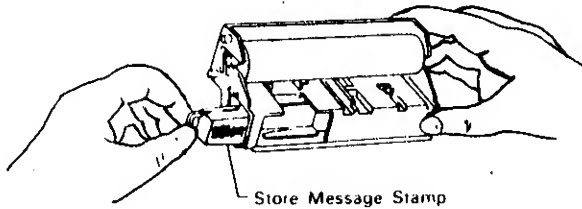

Fig. 13
- 3) Pull out the store message stamp in the direction of the arrow (see Fig. 13).